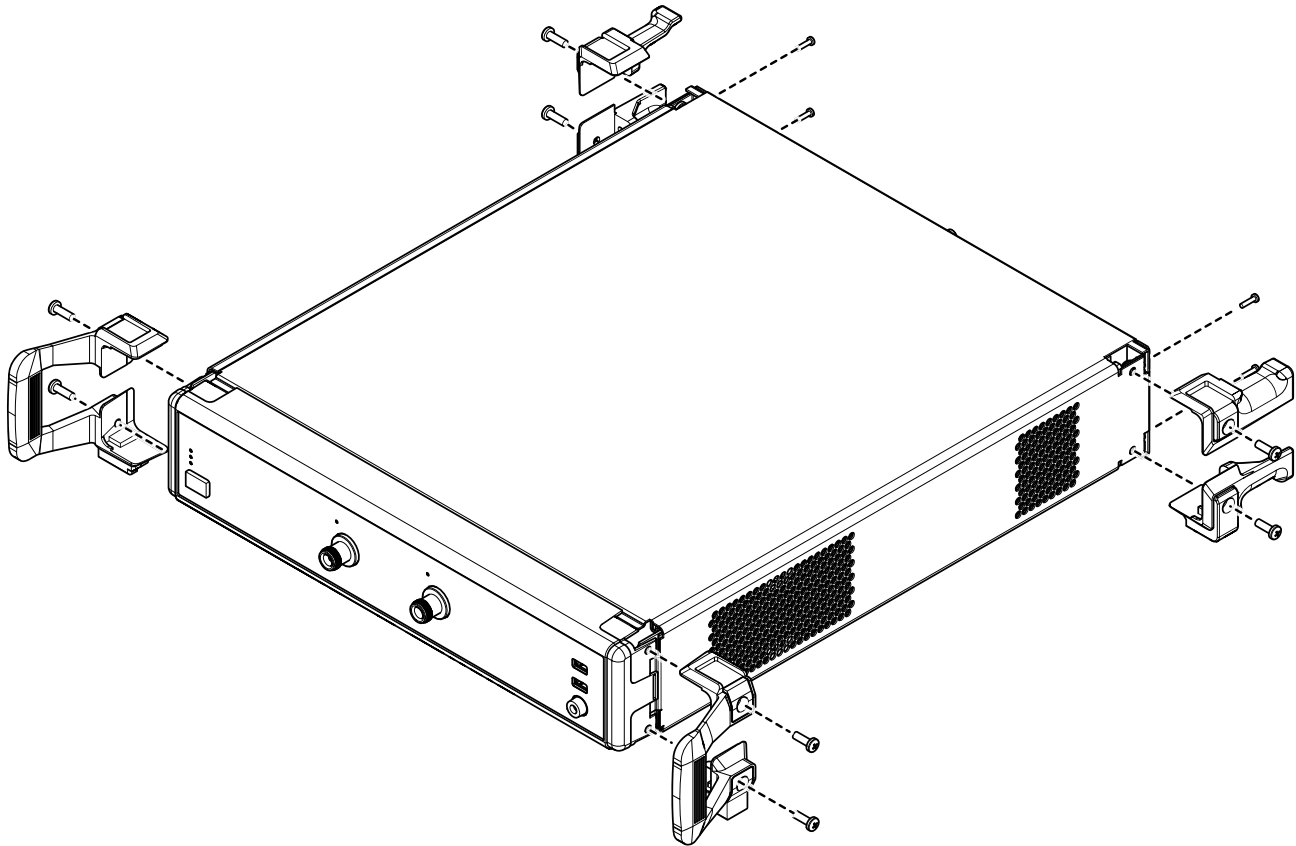

Figure B-1. Removing Instrument Handles and Feet for Rack Mount
3. Using a Phillips screwdriver, remove the two front panel handles and the four feet at the rear of the instrument (see Figure B-1). Save the screws for later use.